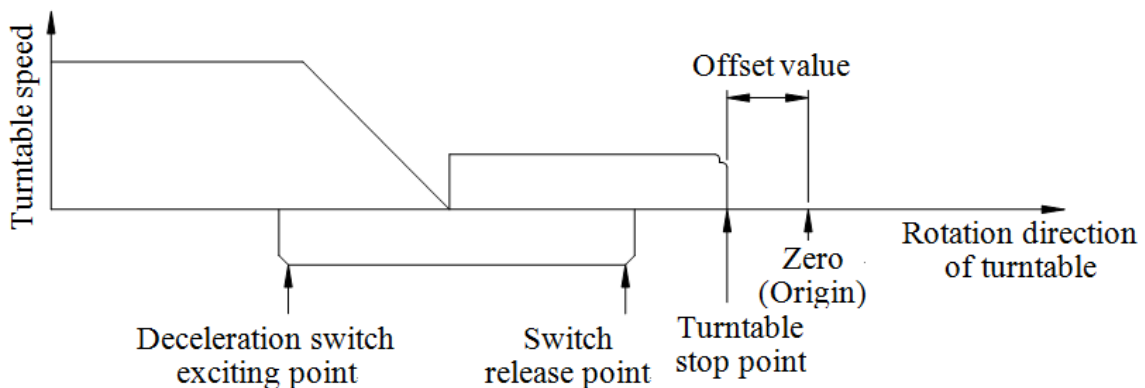

Fig 8-3
- (1).When the machine receives Zero Reset Command from NC controller, the Rotary Table will start to rotate in the specified forward direction to zero position.
- (2).When the Zero Dog touches the Proximity Switch, Rotary Table starts to decelerate for an accurate and prompt stop.( see Fig 8-3)
- (3).When the Rotary Table reduces its rotation speed, it will stop at Zero when a reference signal from the motor is received.
- (4).Perform turntable operation several times; measure errors between the actual stopping point and nominal stopping point of the Rotary Table. Enter the measurements into Zero Offset of the NC System for correction.